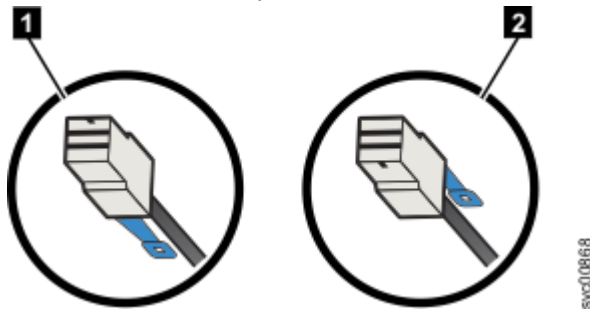

Figure 123. SAS cable connector orientation
- For Storwize V7000 Gen2 systems, Storwize V7000 Gen2+ control enclosures, and 2U expansion enclosures, the blue pull tab must be below the cable (**1** in Figure 123 on page 109).
- For 2076-92F 5U expansion enclosures, the blue pull tab must be above the connector (**2** in Figure 123 on page 109).